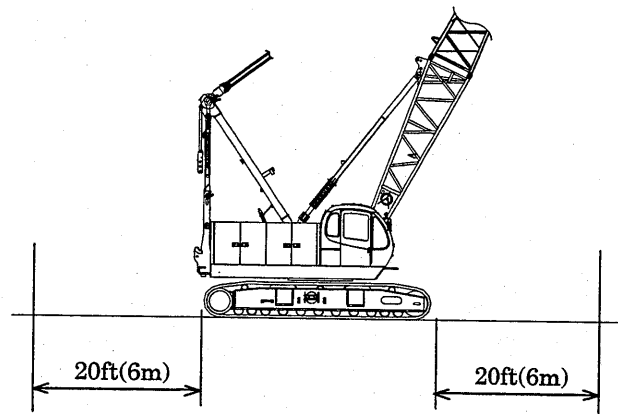

Fig 10-3
- (3) Turn the upper structure so that the upper structure is parallel to the crawlers, and secure clearances of 20 ft (6 m) from each of the front and back of the crawler frame (Fig. 10-3).